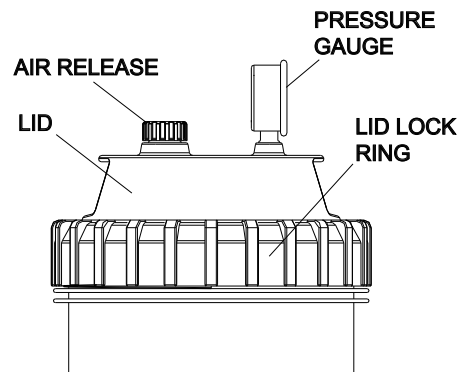

Figure 5. Lid Attachment, Pressure Gauge
Assemble the pressure gauge to the filter lid using Teflon tape wrapped on the male thread. Do not over-tighten. See **Figure 5**.
1. Make sure the filter cartridge is inside the filter and that the lid is securely fastened using the LID LOCK RING. See **Figure 5**.
2. Open the air release valve on the lid. See **Figure 5**.